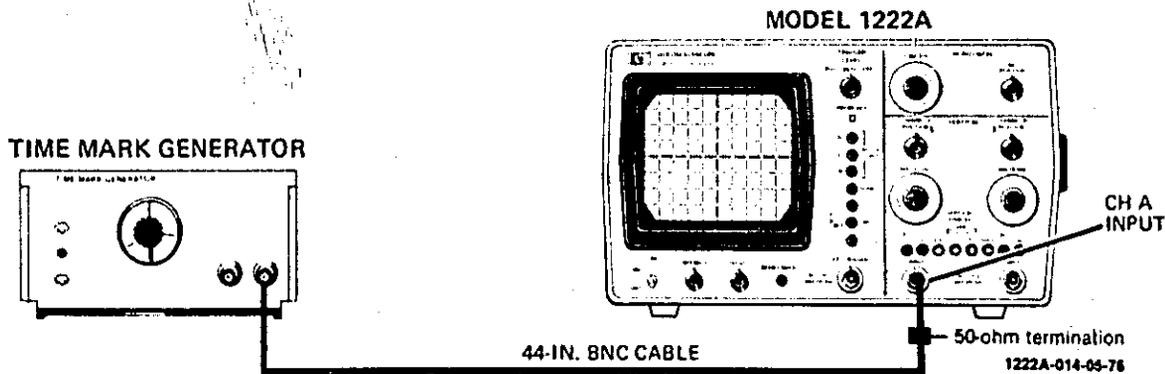

Figure 5-6. Sweep Time Accuracy Test Setup
- a. Connect equipment as shown in figure 5-6.